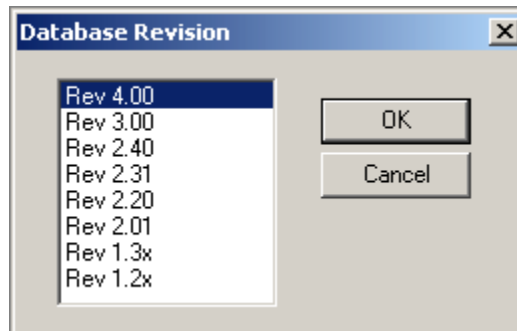

Figure 6-4 Database Revision dialog
1. Click the **New** button on the **Standard** toolbar. The Database Revision dialog displays. See Figure 6-4.